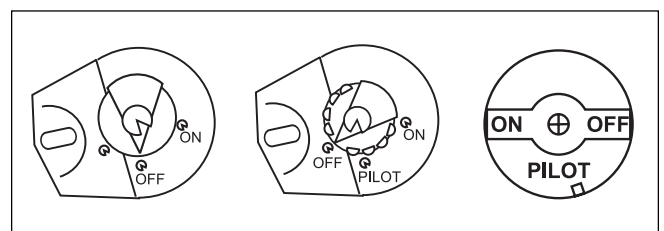

Figure 12. Gas Valves.
- c. Different models of the JV boiler utilize various gas valves. Although the gas valves may have different control knobs, they are all similar in operation. The JVS gas valve has a two-position knob, ON and OFF. The JVT valve has a three-position knob, ON, OFF and PILOT, some models come with extra push-button (see Figure 12).
3. Remove burner cover by loosening two (2) thumbscrews.
5. On all burners exhibiting an abnormal flame, loosen but do not remove the air shutter locking screw using a 5/16 inch wrench (see Figure 12).